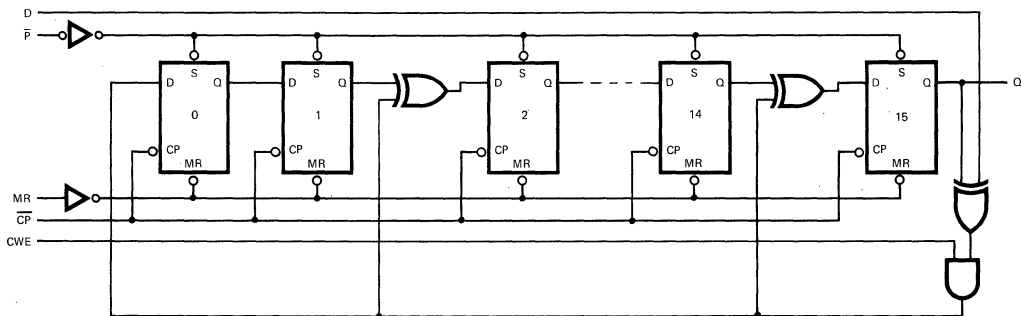

Fig. 1
The 9401 consists of a 16-bit register, a Read Only Memory (ROM) and associated control circuitry as shown in the block diagram. The polynomial control code presented at inputs S_0 , S_1 and S_2 is decoded by the ROM, selecting the desired polynomial by establishing shift mode operation on the register with Exclusive OR gates at appropriate inputs. To generate the check bits, the data stream is entered via the Data inputs (D), using the HIGH-to-LOW transition of the Clock input ($\overline{CP}$). This data is gated with the most significant output (Q) of the register, and controls the Exclusive OR gates (*Figure 1*). The Check Word Enable (CWE) must be held HIGH while the data is being entered. After the last data bit is entered, the CWE is brought LOW and the check bits are shifted out of the register and appended to the data bits using external gating (*Figure 2*).